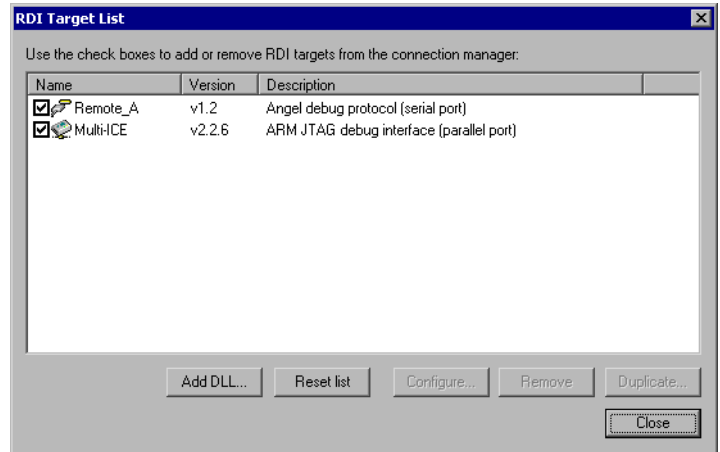

Figure B-1 RDI Target List
- b. Select **Add/Remove/Edit Devices...** from the context menu to display the RDI Target List, shown in Figure B-1 on page B-3.